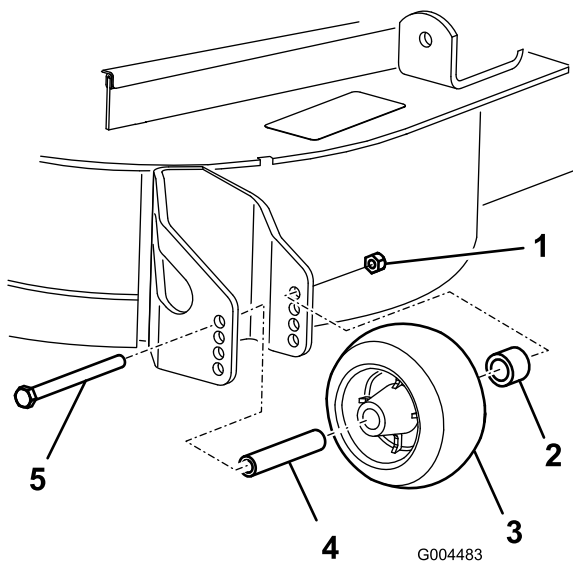

Figure 18
3. After adjusting the height-of-cut, adjust the rollers by removing the flange nut, bushing, spacer, and bolt (Figure 18).
5. Install the flange nut, bushing, spacer, and bolt. Torque to 40-45 ft-lb (54-61 N·m) (Figure 18).